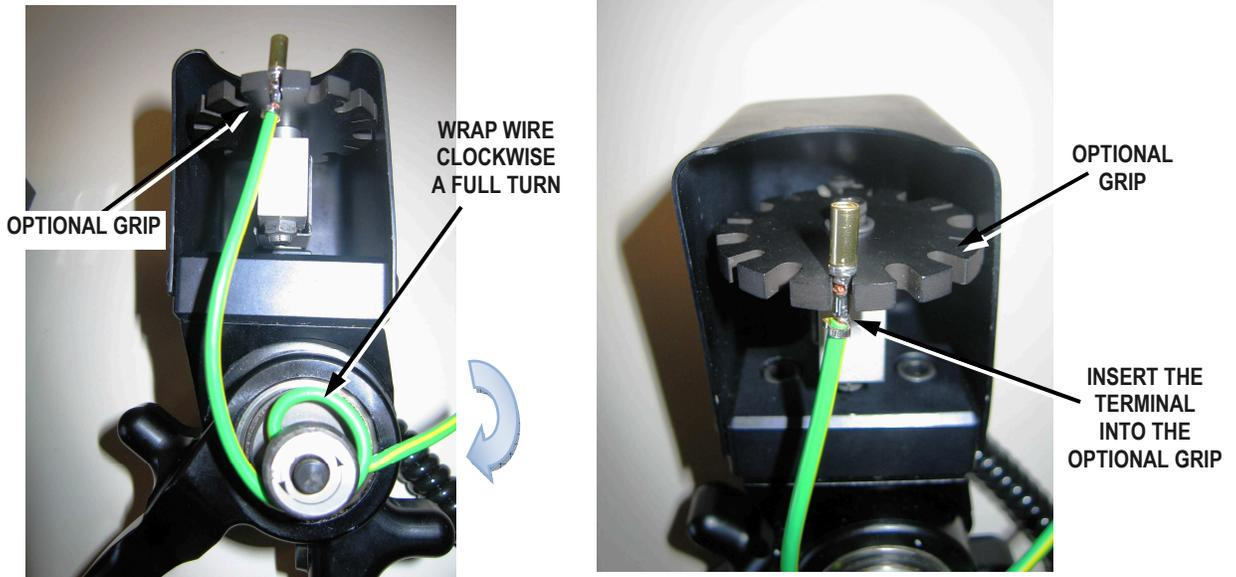

Figure 2-6
- For best results, wrap the wire at least one full clockwise turn around the cam shaft. See Figure 2-6.